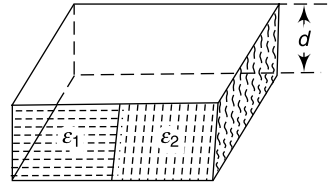

Fig. 2.67
28. Two dielectrics of equal size are introduced inside a parallel plate capacitor as shown in Fig. 2.67. How does the effective capacitance change?